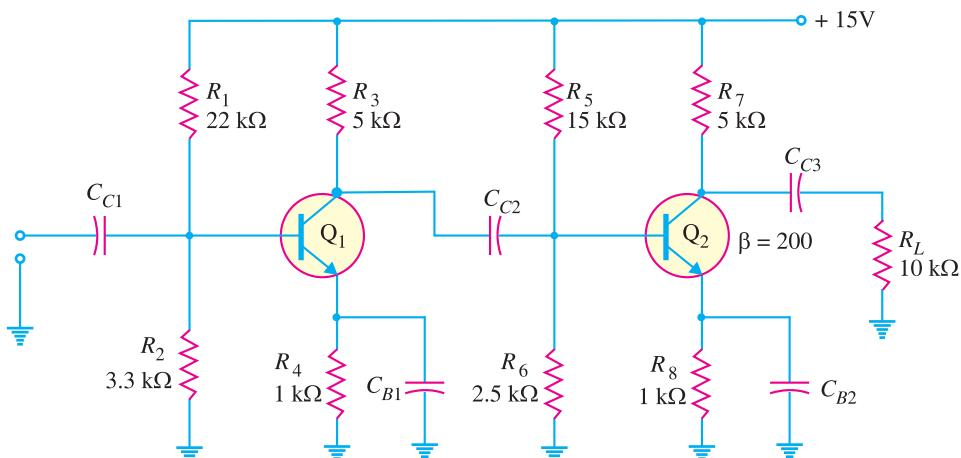

Fig. 10.48
14. Determine the voltage gain for the first stage in Fig. 10.48. [53.03]
15. If the value of  $\beta$  for the second stage in Fig. 10.48 is increased to 280, determine the voltage gain of the first amplifier stage. [58.08]